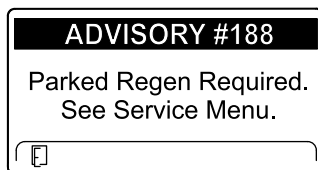

Figure 46
- Parked regeneration required ADVISORY #188 (Figure 46)